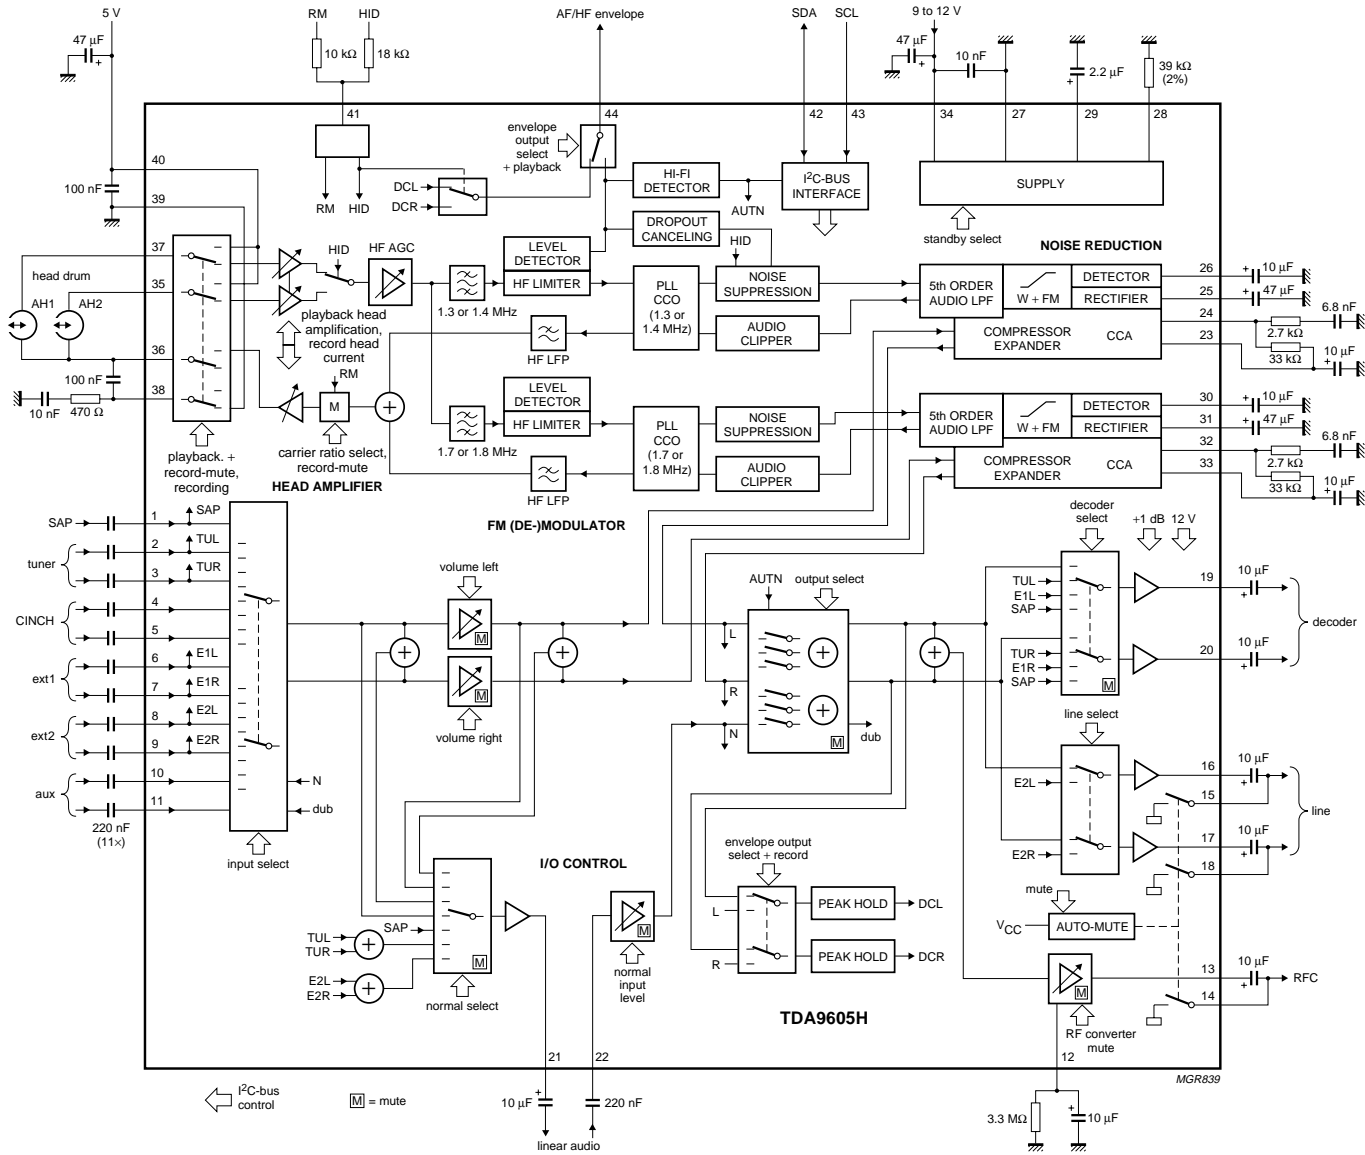

Fig.14 Application diagram.
**13 PLAYBACK MODE CHARACTERISTICS** $V_{CC} = 12\text{ V}$ ;  $T_{amb} = 25\text{ }^{\circ}\text{C}$ ; measured in typical application circuit of Fig.14; unless otherwise specified.